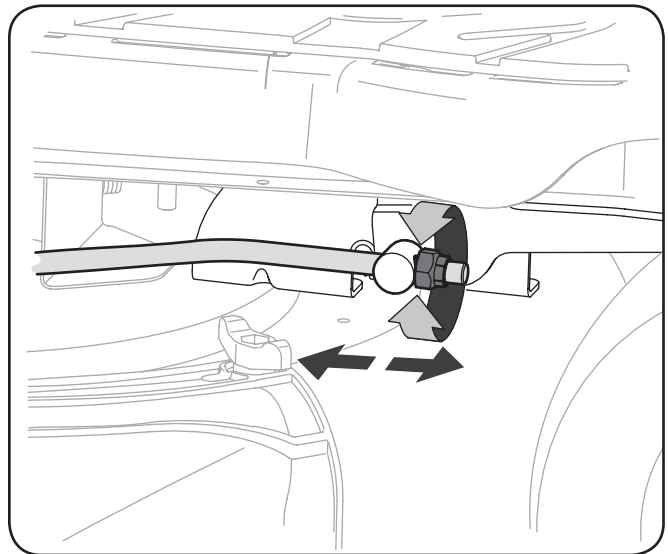

Figure 6-2
3. Locate the flange lock nut on the front end of the PTO Lift Rod. See Figure 6-2.